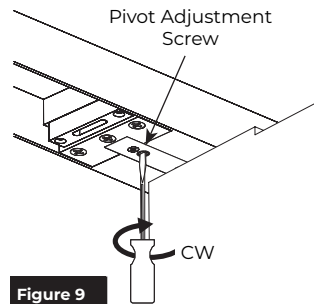

Figure 9
4. With top pivot stud aligned with door portion hole, use a flathead screwdriver to turn pivot adjustment screw clockwise to extend pivot stud into door pivot portion. (Figure 9)